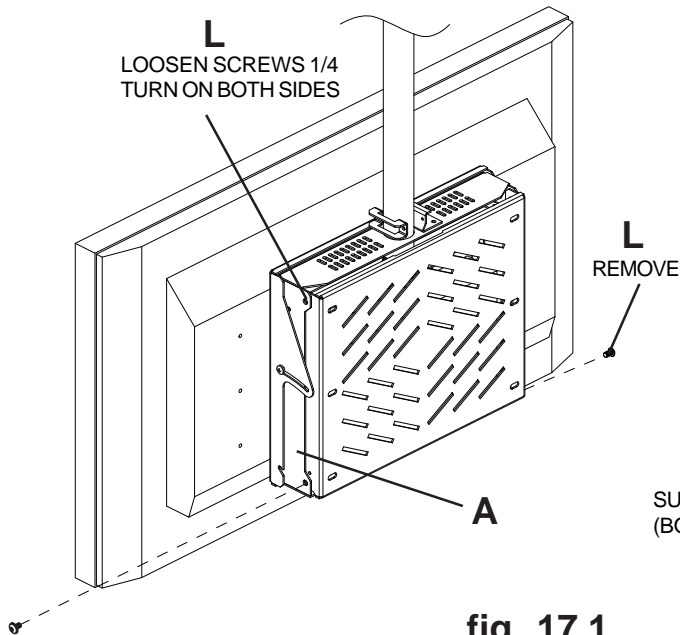
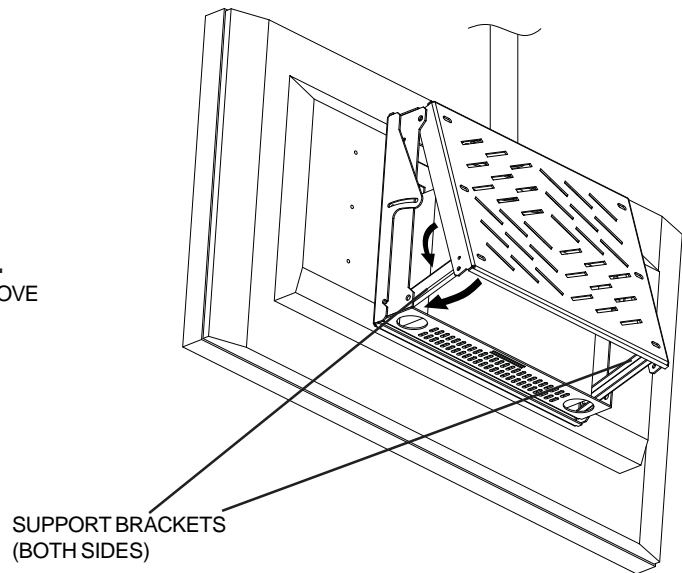

fig. 17.1
fig. 17.2
- 17** Loosen top two M8 x 15 mm socket pin screws (L) 1/4 turn and temporarily remove bottom two M8 x 15 mm socket pin screws (L) on main support box (A) as shown in figure 17.1. Swing screen forward and swing support brackets downward to brace screen in open position as shown in figure 17.2.